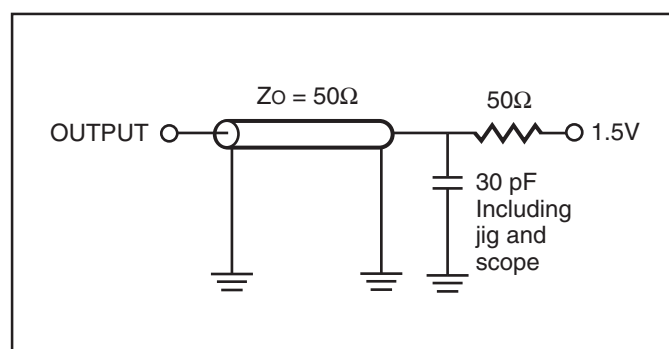

Figure 1.
- Test conditions assume signal transition times of 5 ns or less, timing reference levels of 0.9V/1.5V, input pulse levels of 0.4 to V_{DD}-0.2V/0.4V to V_{DD}-0.3V and output loadings specified in Figure 1.
- Test conditions assume signal transition times of 5 ns or less, timing reference levels of 0.9V/1.5V, input pulse levels of 0.4 to V_{DD}-0.2V/0.4V to V_{DD}-0.3V and output loading specified in Figure 1.